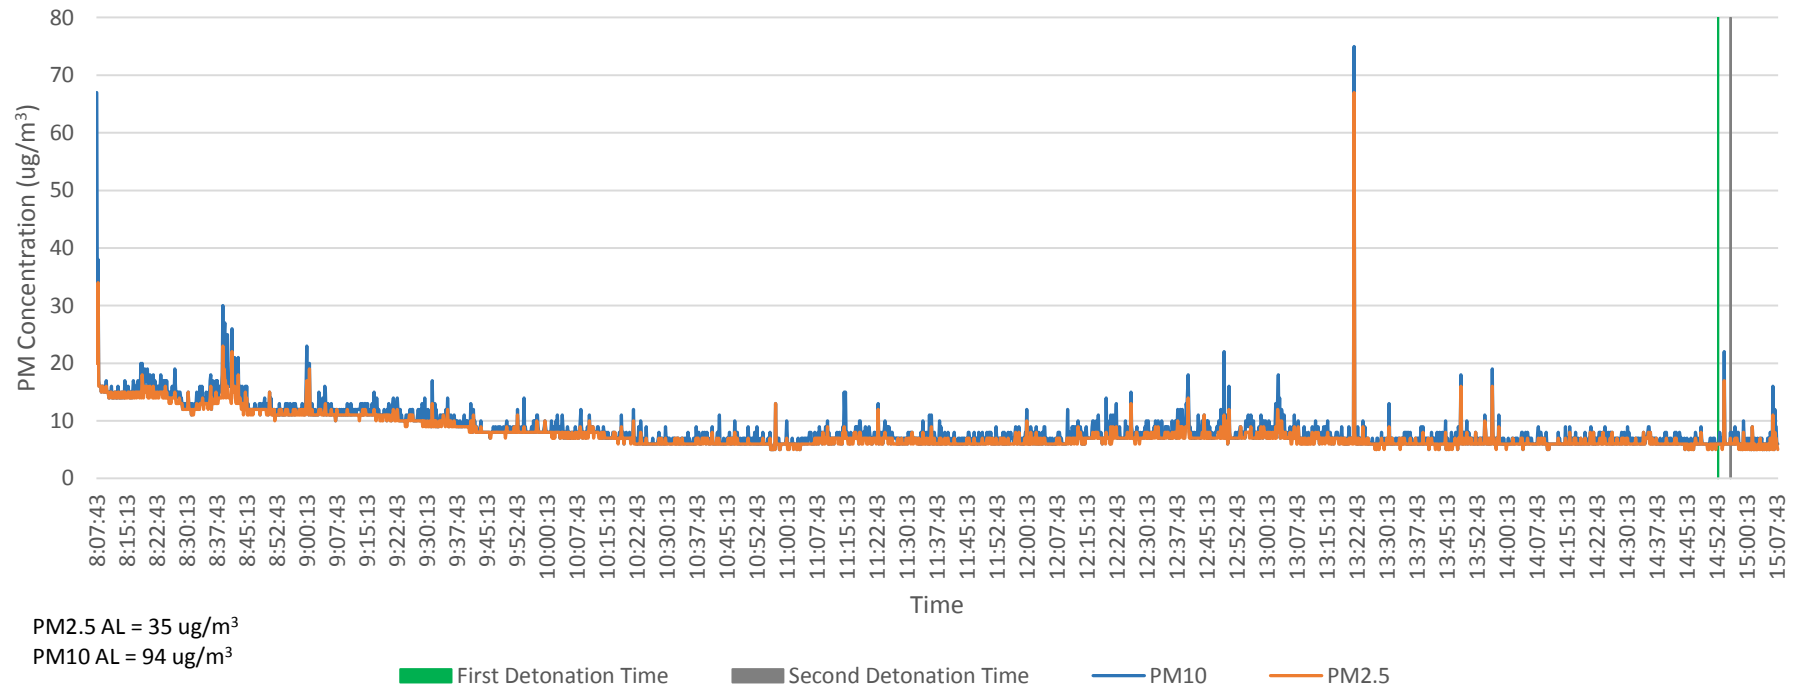

Figure 3-12. PM2.5 and PM10 on 8/11/17 at the Fence Line Boundary Monitoring Point - Lower Factory Pond
- Figure 3-12. PM2.5 and PM10 on 8/11/17 at the Fence Line Boundary Monitoring Point – Lower Factory Pond